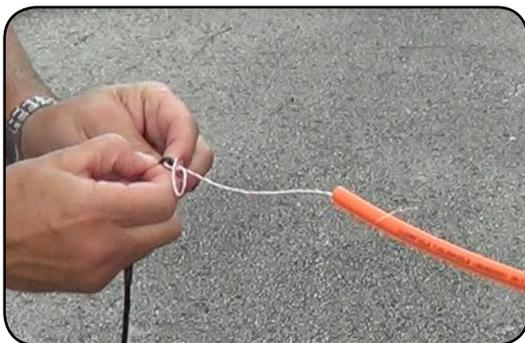

Figure 3
**Step 2:** After the nylon pulling eye has been slid over the end of the cable, simply tie the pull string to the loop of the pulling eye (**Figure 3**).